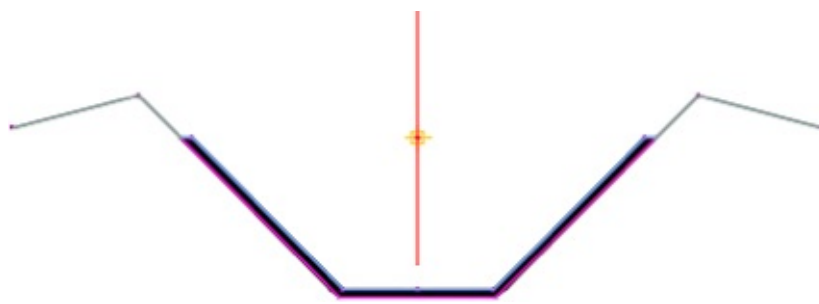

Figure 8.34 The Channel subassembly with default parameters
9. At the Select marker point within assembly or `[Insert Replace Detached]:` prompt, select the red assembly baseline marker, and a channel is placed on the assembly (see Figure 8.34).